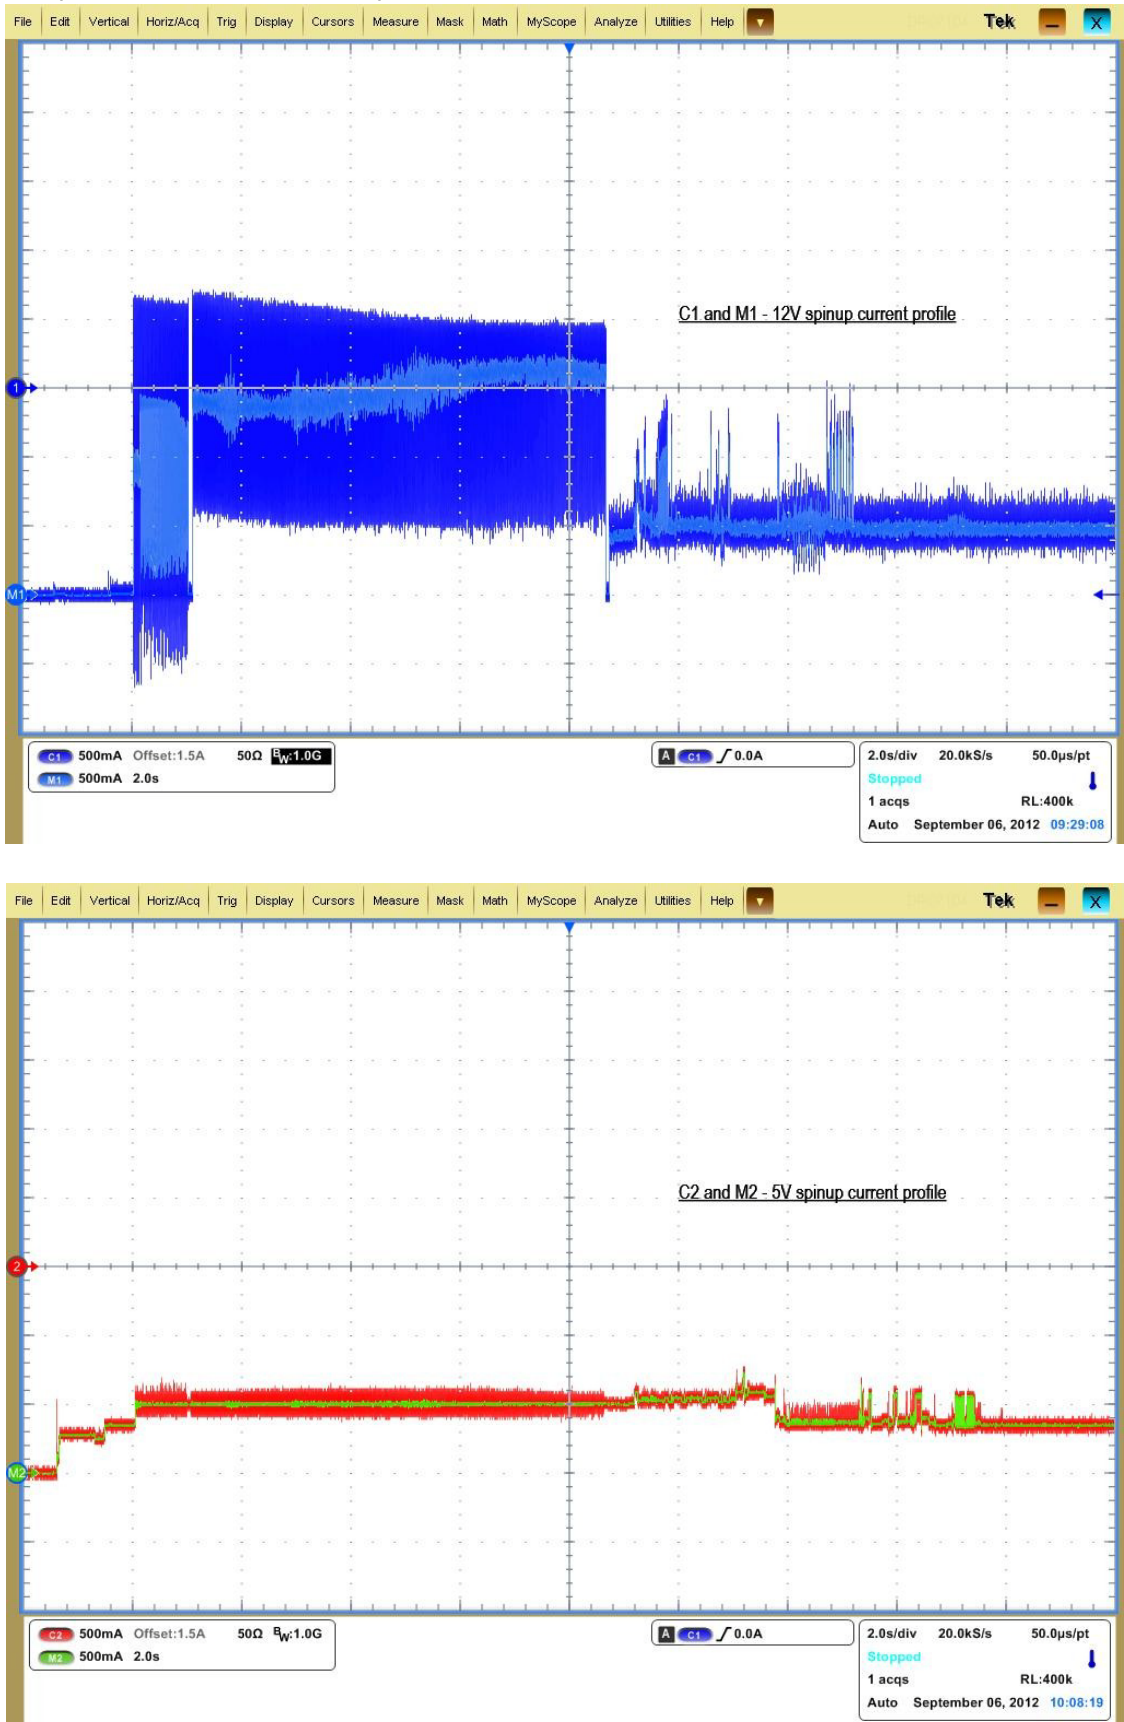

Figure 1. 4TB model current profiles
- [3] See +12V current profile in Figure 1. (for 4TB models)